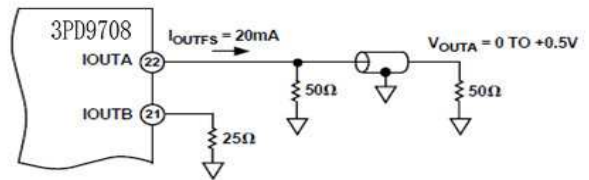

Figure 15. 0 V to +0.5 V Unbuffered Voltage Output
The 3PD9708(E) produces two complementary current outputs, I_{OUTA} and I_{OUTB} , which may be converted into complementary single-ended voltage outputs, V_{OUTA} and V_{OUTB} , via a load resistor, R_{LOAD} , as described in the DAC TRANSFER FUNCTION section. Figure 15 shows the 3PD9708(E) configured to provide a positive unipolar output range of approximately 0 V to +0.5 V for a